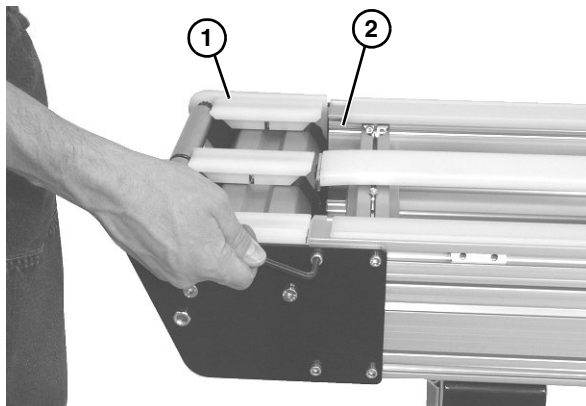

**Figure 47**
11. Check idler terminal assembly on each side (**Figure 47, item 1**) for wear. If worn, replace.
12. Remove and replace wear guides (**Figure 47, item 2**) if worn. When replacing, secure onto pins on each support plate.